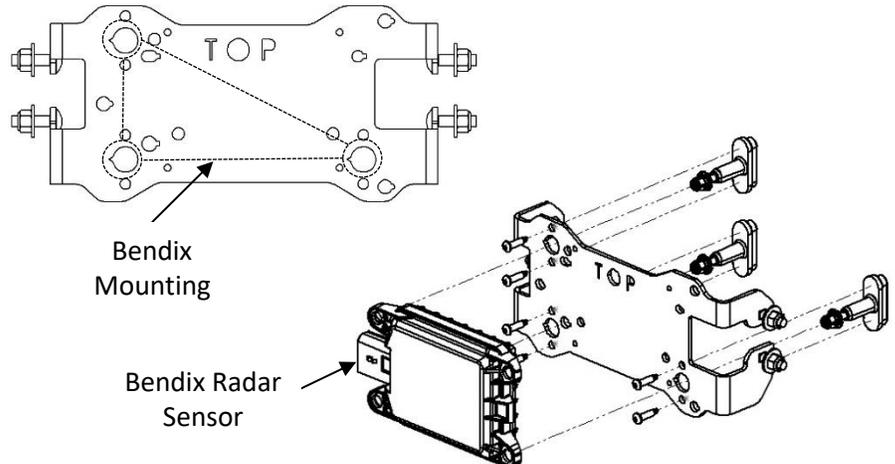

Figure 4 - Bendix Radar Sensor Installation
4. Mount Bendix sensor unit with the OEM hardware. Use mounting hole pattern as shown in Figure 4.